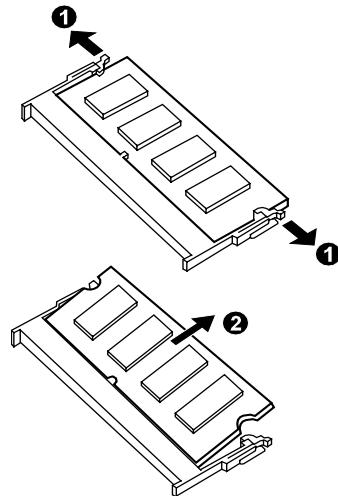

Figure 2-15
2. Pull the retaining clips outwards (①) and remove the SO-DIMM (②). (figure 2-15)